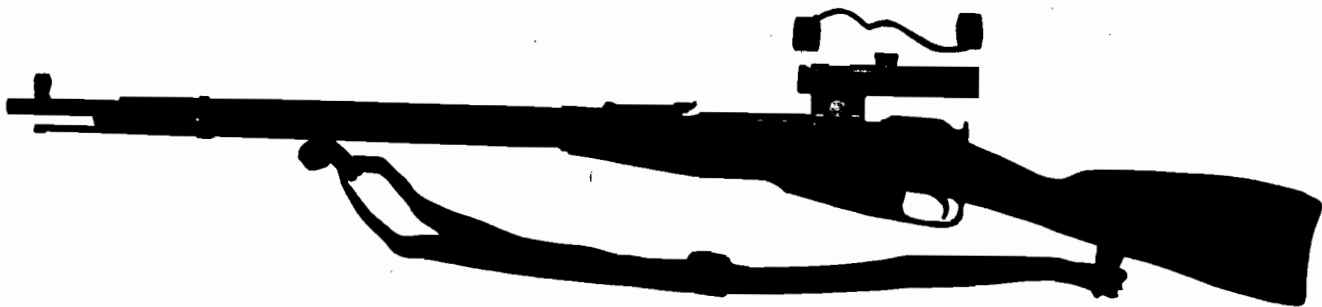
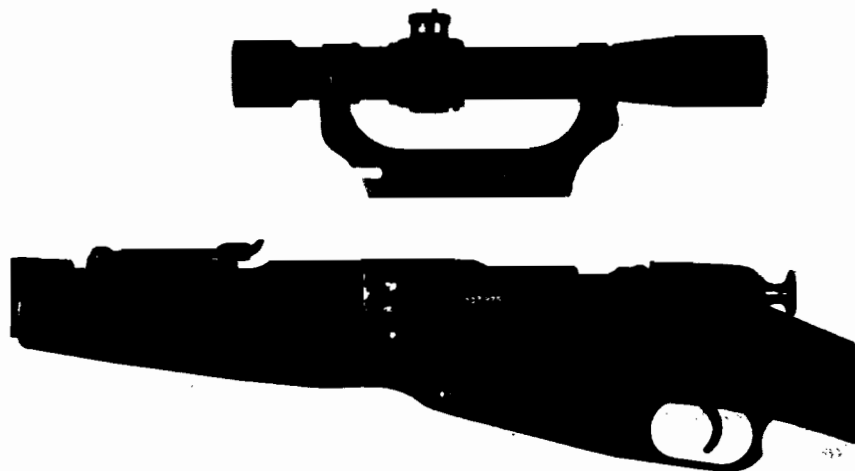

Figure 50. Model 1891/30 sniper's rifle with PU telescope.
Figure 52. Model 1891/30 sniper's rifle with PE telescope.
- (1) Cleaning rod patch holder.
- (2) Bore brush.
- (3) Screwdriver.
- (4) Oil can.
a. The Model 1891/30 sniper's rifle (fig. 50) is a Model 1891/30 rifle that is specially selected for accuracy and fitted with a telescopic sight. In addition, the bolt handle has been lengthened and turned down alongside the stock.
b. These rifles can be fitted with the 3.5-power PU telescope (fig. 50) or the 4-power PE telescope (fig. 52). The PU is the more common telescope. These telescopes have large pointed post reticles and rather coarse adjustments.
a. The PU and PE telescopes are removed by loosening the lock screw (fig. 50) and removing the telescope and its upper mount.
c. The PE telescope can be adjusted for windage zero by means of the screw in the rear mount (fig. 52).